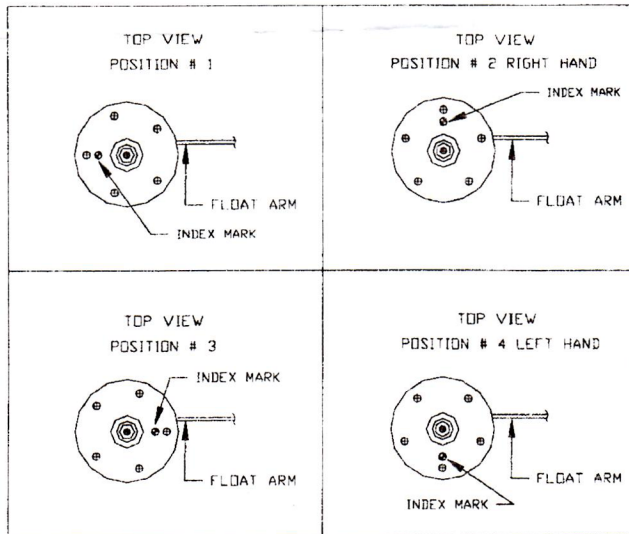

FIGURE 1.
STEP 1. Determine required float arm position. (Unless otherwise specified, senders are assembled for Right Hand float arm position.) Position is defined by comparing the screw hole pattern on the tank to Figure 1 below.
STEP 2. If necessary to reposition float arm for left hand positioning loosen lower 10/32 hex nut and rotate index hole 180°. If hex nut is removed from stud, care must be taken that the sealing hardware is correctly reassembled onto stud. Tighten hex nut to 16 – 20 inch pounds. See buildup of hardware above (Figure 1).